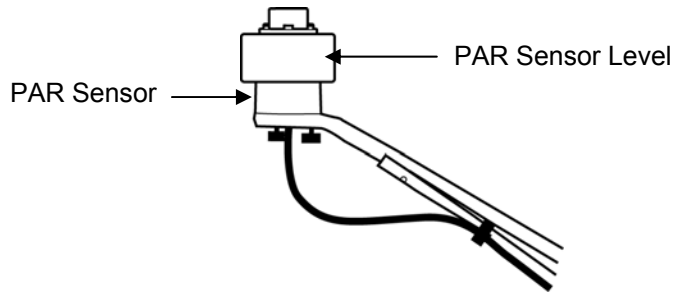

Figure 3: Leveling the PAR Smart Sensor on the Light Sensor Bracket
10. Check the light sensor level and repeat above steps if necessary (see Figure 3).